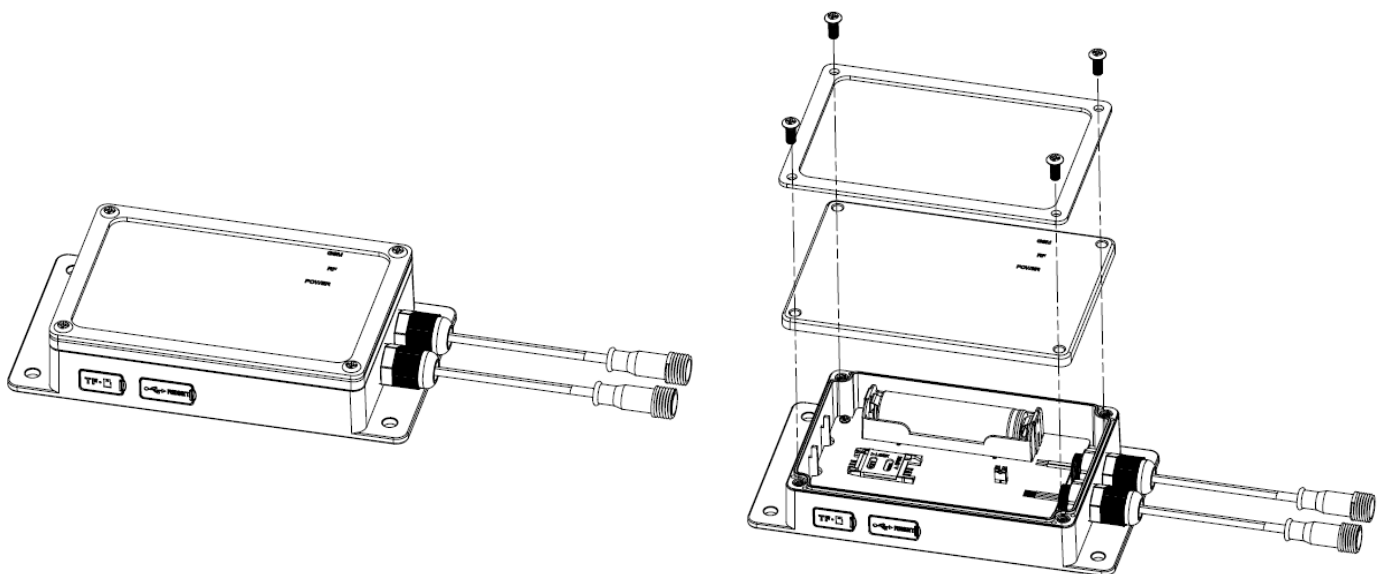
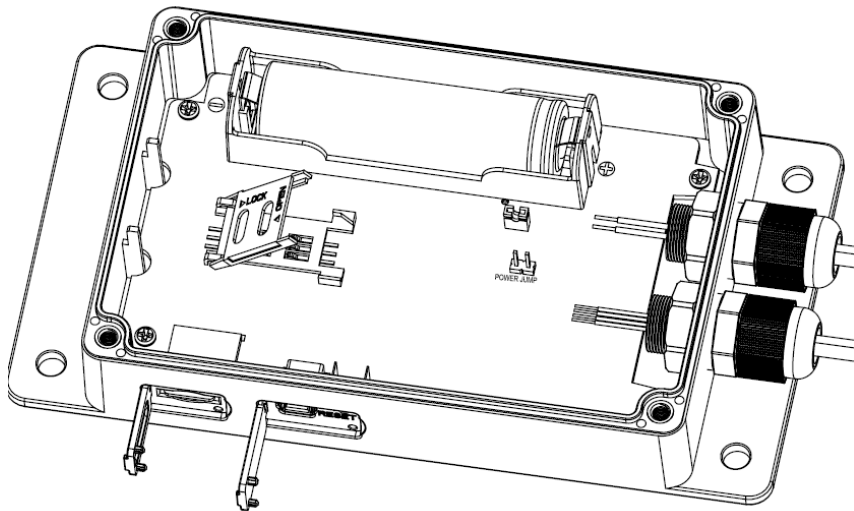

Figure 14
Figure 15
1. Before power on the device, please open the case (Figure 14) and use a GSM SIM card to insert to the SIM card slot on the PCB board inside. (Figure 15)
2. At the same time insert a 2GB Micro SD card into the memory card slot. (Figure 15)
3. Install the supplied li-ion battery into the battery chamber. Do not install the batteries incorrect to the polarity markings. You can permanently damage the receiver. Until now the receiver is able to charge, work and supply power to outdoor unit (Figure 15)